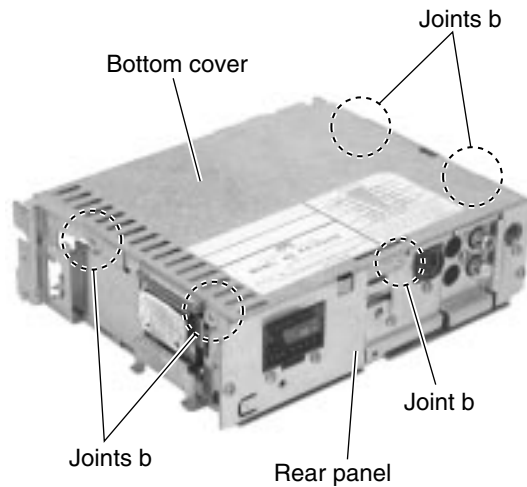

Fig.6
■ Removing the sub chassis (See Fig.6)